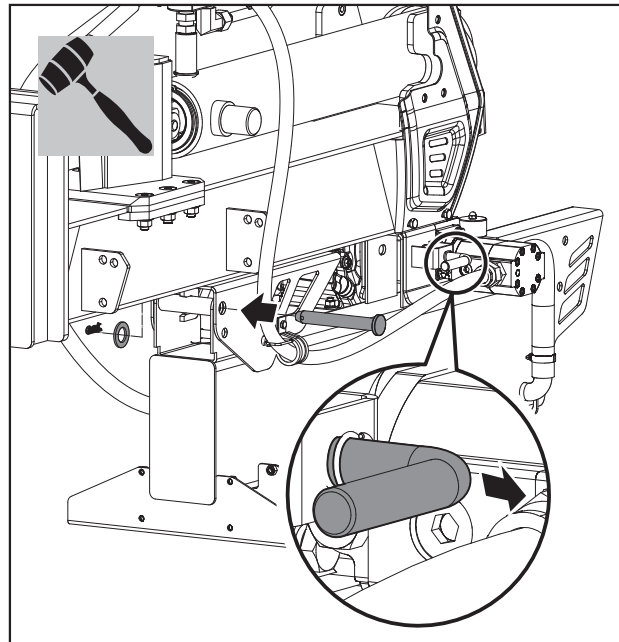

Figure 2b
2. Pull out the lock latch a little. (See Figure 2b.)
3. Slowly pull the beam in a straight line until the pivot casing in the tank pivot mount is locked by the U-shaped bracket in the beam. Then make sure the hole in the beam pivot bracket aligns with the pivot hole in the tank pivot mount. (See Figure 2b.)